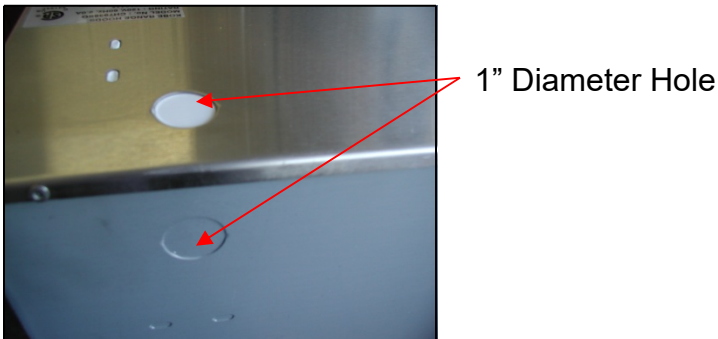

Figure 12
3. Unscrew the six screws on the bottom casing. Remove the bottom casing or remove the baffle filters and spacers. If necessary, arrange the electrical wires to run through the 1" diameter hole on the top or the rear of the hood. Refer to Figure 12.